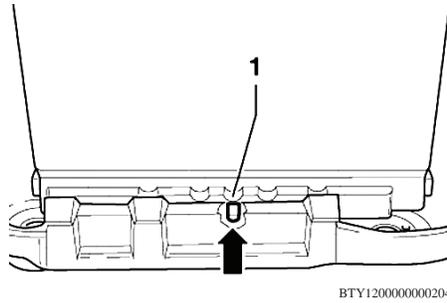

Fig. 3 Battery installation
1. Install battery so that tab on battery tray (arrow) fits into opening in battery clamping strip (1), **Fig. 3**. It must not be possible to slide battery to righthand or lefthand sides.